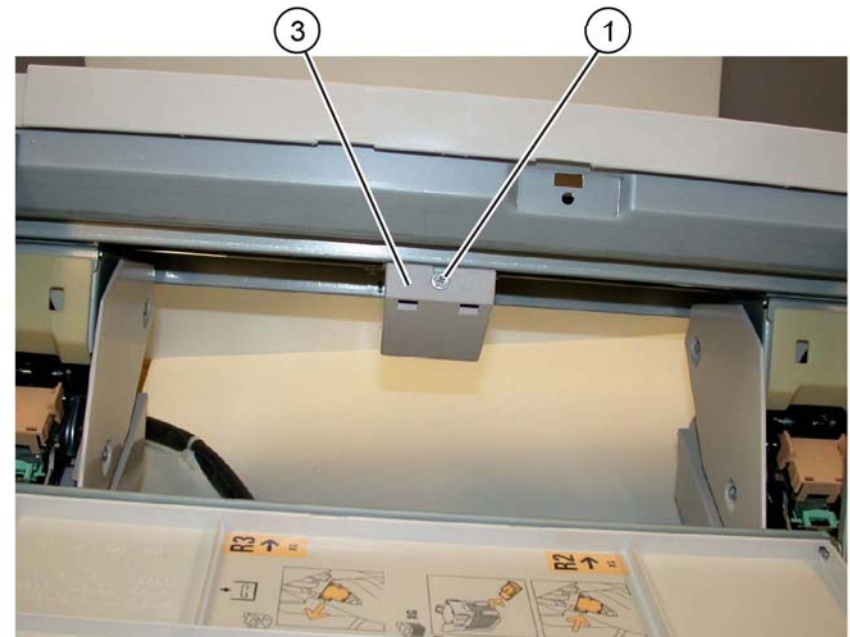

Figure 1 Cover removal
2. Remove the cover for the booklet stapler move motor, Figure 1:
- a. Remove the screw (1).
- b. Remove the cover (2).